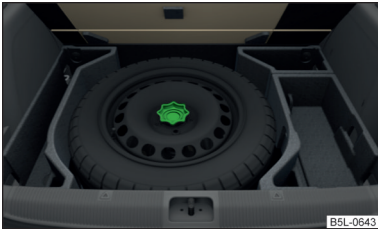

Fig. 168
The spare wheel is located in a well under the floor covering in the boot and is fixed in place with a securing bolt » Fig. 168.
- Unscrew the bolt » Fig. 168 in an anti-clockwise direction.
- Screw the securing bolt » Fig. 168 in a clockwise direction until the wheel is securely attached.